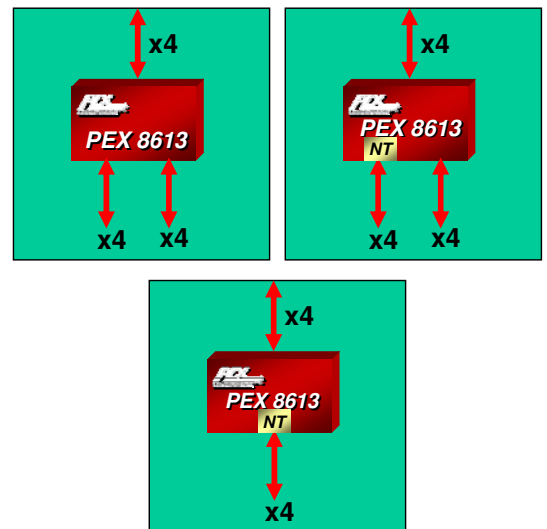
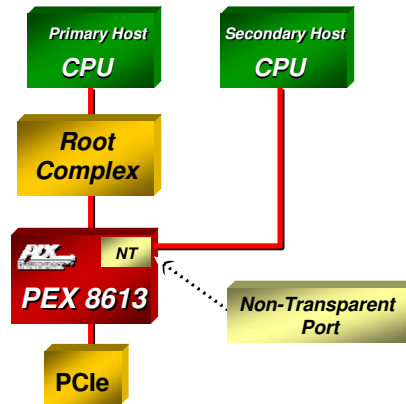

Figure 1. Common Port Configurations
Figure 2. Non-Transparent Port
The PEX 8613's 3 ports can achieve link up to lane widths of x1, x2, or x4. Flexible buffer allocation, along with the device's **flexible packet flow control**, maximizes throughput for applications where more traffic flows in the downstream, rather than upstream, direction. Any port can be designated as the upstream port, which can be changed dynamically. The PEX 8613 also provides several ways to configure its registers. The device can be configured through strapping pins, I²C **interface**, host software, or an optional serial EEPROM. This allows for easy debug during the development phase, performance monitoring during the operation phase, and driver or software upgrade. Figure 1 shows some of the PEX 8613's common port configurations.
The PEX 8613 product supports a **Non-Transparent (NT) Port**, which enables the implementation of **multi-host systems** and **intelligent I/O modules** in storage, communications, and blade server applications. The NT port allows systems to isolate host memory domains by presenting the processor subsystem as an endpoint rather than another memory system. Base address registers are used to translate addresses; doorbell registers are used to send interrupts between the address domains; and scratchpad registers (accessible by both CPUs) allow inter-processor communication (see Figure 2). In a two-port configuration (as in Figure 1), the PEX 8613 can serve as an NT buffer, isolating two host domains via two x4 links.